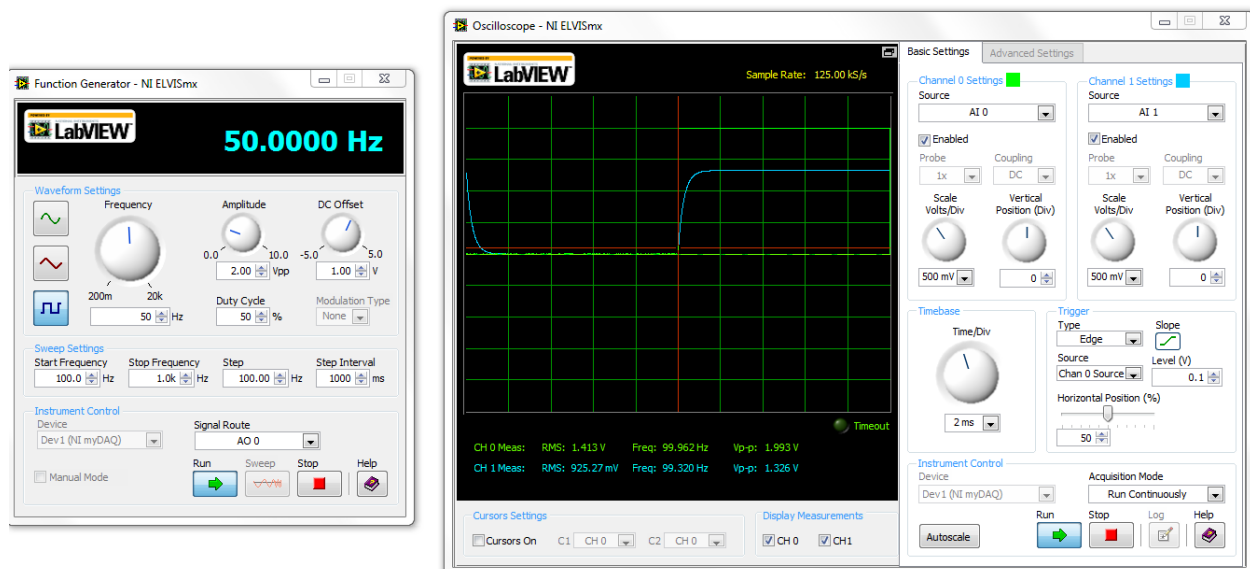

Figure 14: Closed loop response of a first order system
5. Measure the input and output of the system and you should get a response similar to Figure 14. Note that amplitude is about half of the amplitude for the open loop system and the settling time is about half as long.